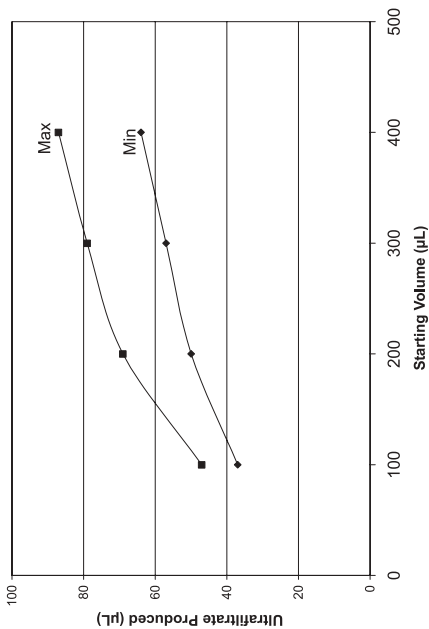

Figure 3. Starting volume versus ultrafiltrate produced for human serum with a 60 minute centrifuge spin time at 2000 x g and 37 °C.
- The serum or plasma ultrafiltrate volume generated can be increased by using a larger starting volume of sample. Use of a 500  $\mu\text{L}$  sample of serum or plasma (versus recommended 300  $\mu\text{L}$ ) will generate a larger ultrafiltrate volume (See Figure 3).